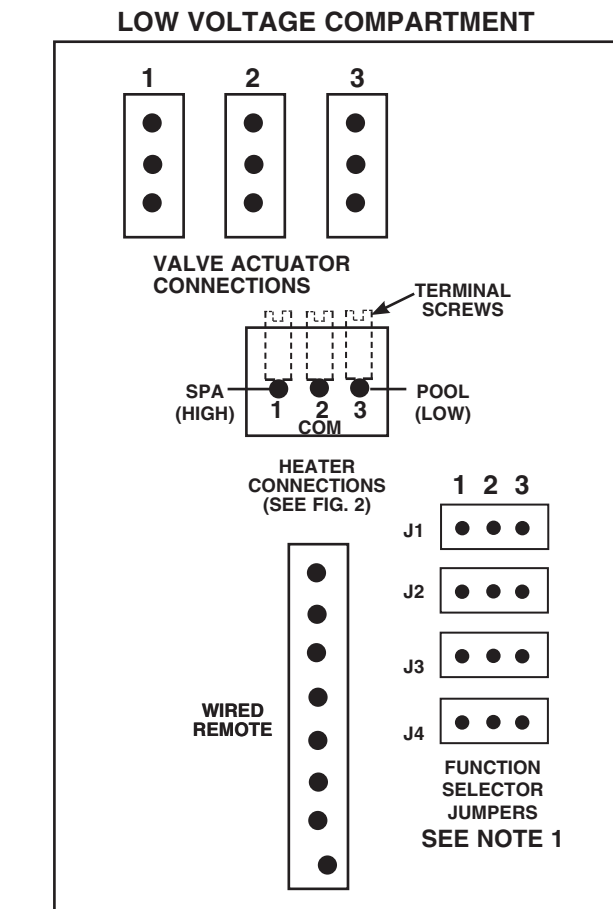

Figure 3 Low Voltage Connections
First, remove terminal block from socket. Make wire connections, then replace block with wires attached as shown on page 4, figure 3.
- Set function selector jumpers (refer to Fig. 3 on page 4).
- If a remote Master Switch is specified, connect one BLK/WHT lead to either the RED or WHITE lead, which ever is used to power the transformer. Connect the other BLK/WHT lead to the **Load** terminal of a switching device (toggle, countdown timer, radio receiver, etc.) and connect the **Line** terminal of the switching device to the BLACK lead of the transformer supply. Depending on the Jumper settings (see Fig. 3), the remote switching device will activate/deactivate the Pool-To-Spa function and reverse the state of the two relays.